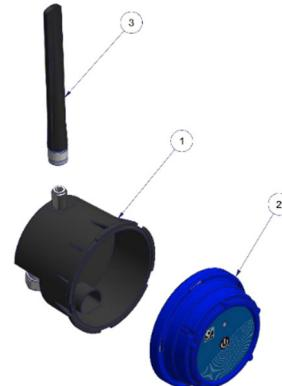

Figure 1 CV-Log-35 parts
- c. (1) or (A): Circled numbers and letters in the text refer to the parts described in Figure 1 and 2 respectively (example: Figure 1 - page 5)